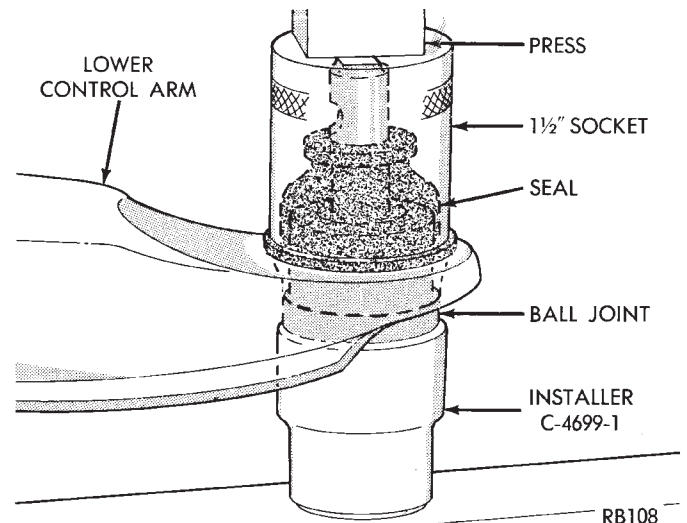

Fig. 4 Installing Ball Joint Seal
- (1) Support ball joint housing with Installer, Special Tool C-4699-1 (Fig. 4). Position new seal over ball joint stud and against ball joint housing.
- (2) With 1-1/2 inch socket, press seal onto ball joint housing until it is squarely seated against top surface of control arm as shown in (Fig. 4).